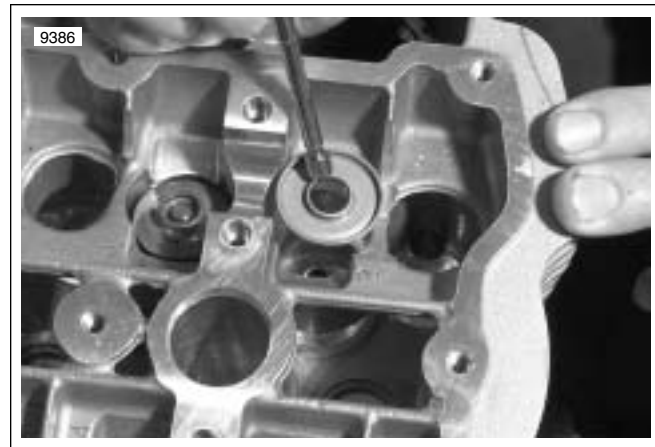

Figure 3-58. Lower Spring Collar
3. See Figure 3-58. Insert lower spring collar.